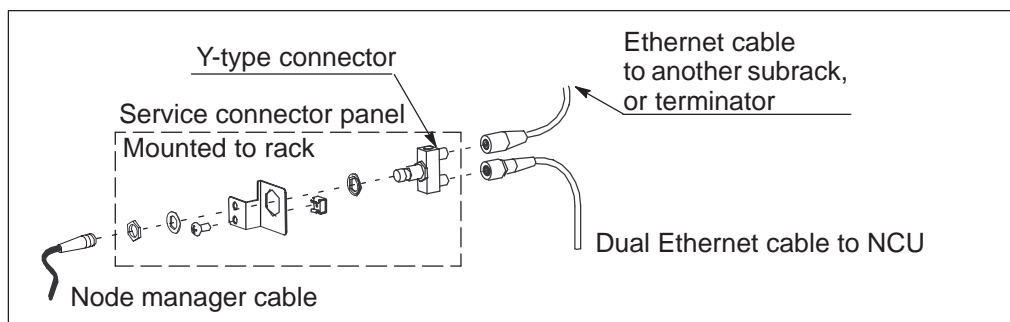

Figure 22 Example on connecting the service connector panel
1. Mount the service connector panel with the Y-type connector to the rack, see mounting principle in Figure 22.
- Connect the Ethernet cable from the Y-type connector to the NCU Q3 connector (Figure 22).